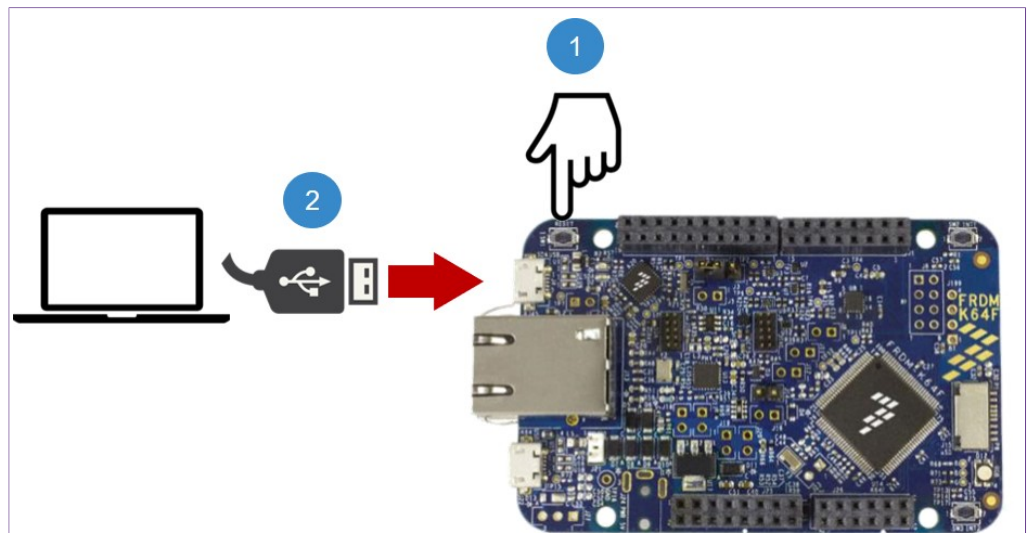

Figure 3. Enter bootloader mode
4. Start the board's bootloader mode. To do so, (1) keep reset button pressed while (2) connecting the USB cable to the SDA USB port and release it after 1s (Figure 3):